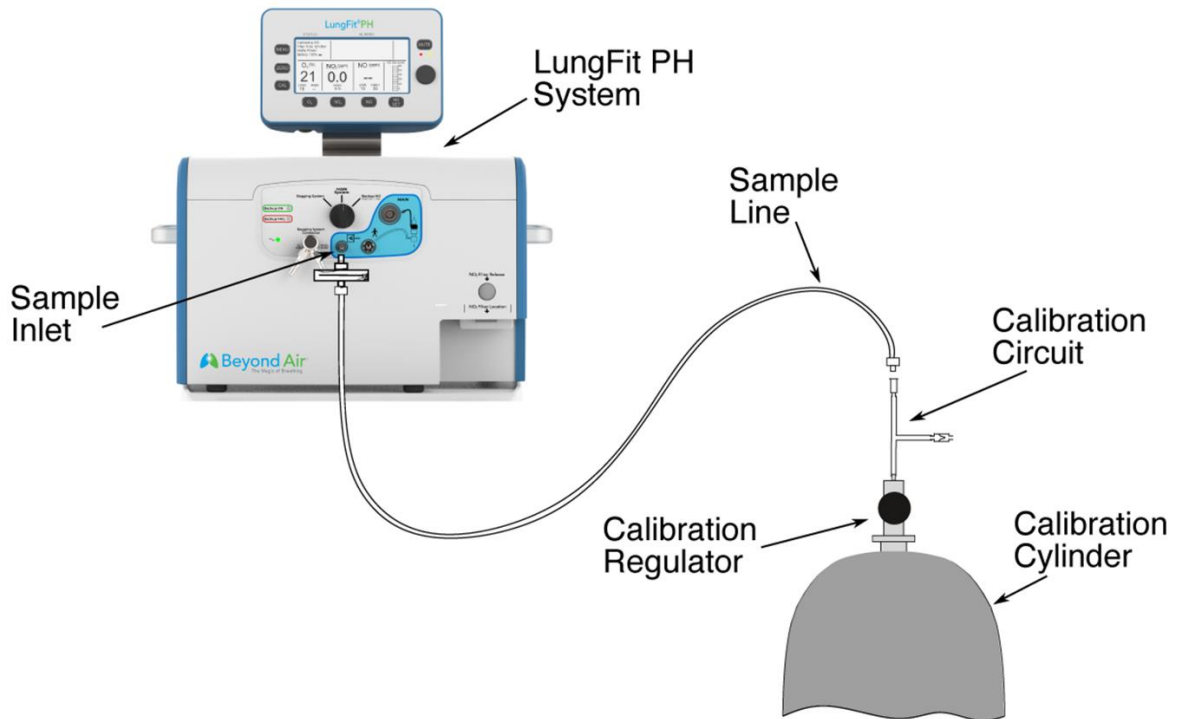

Figure 41: Calibration Setup
- If further calibration is needed, proceed to the next section, using the setup shown in Figure 41. If not, the system will automatically resume active gas monitoring.
- Connect the LungFit PH System Sample Line to female luer fitting of the calibration circuit (*see Figure 41*)
- Connect female luer fitting of calibration circuit to LungFit PH System Sample Line (*see Figure 41*).